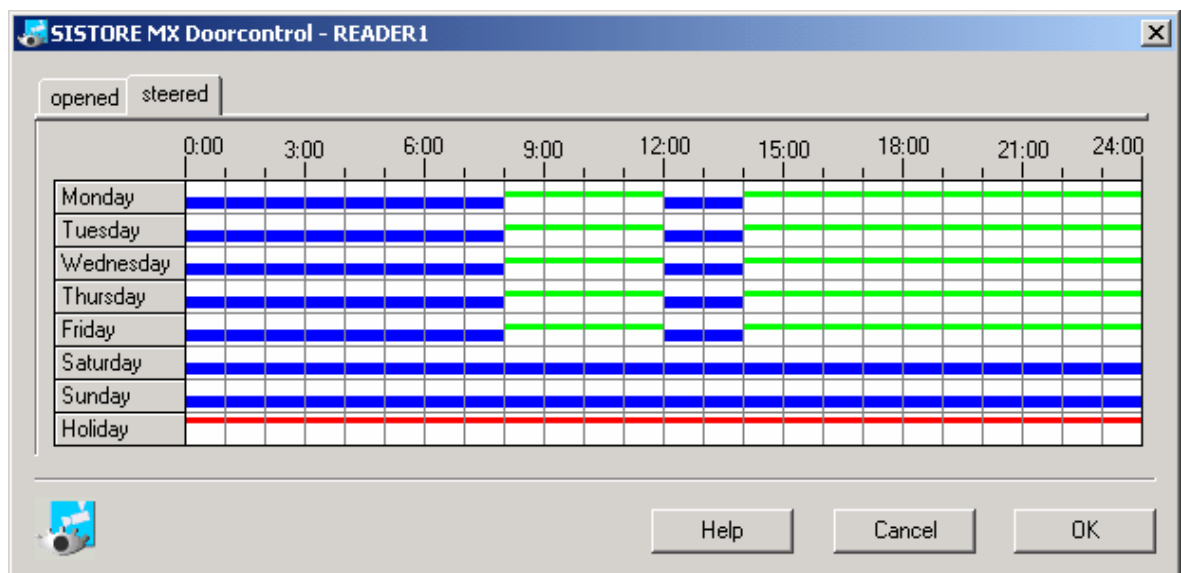

Fig. 177 "SISTORE MX Door control" dialog (configured)
- The selected time period is displayed in the timeline in the form of a green bar (see Fig. 177).
- The selected time period is displayed in the timeline in the form of a blue bar (see Fig. 177).